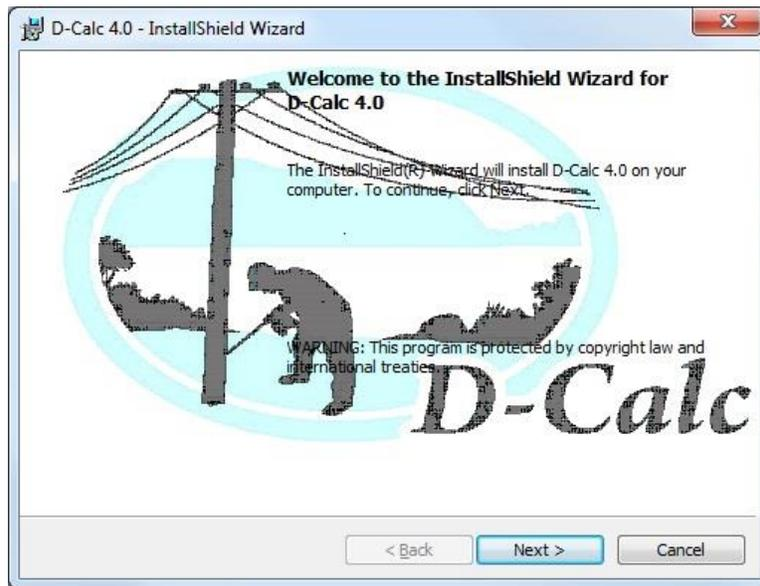

Figure 1-2. Welcome Dialog
7. Next, the “Welcome” dialog is displayed – Figure 1.2. Click the **Next** button.